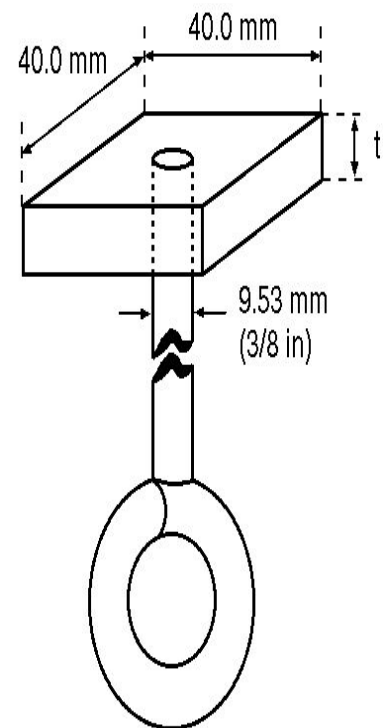

Figure 2. Loading Plate Detail
- The load will be applied downward, from below, by means of a 40mm by 40mm square plate (see Figure 2) resting on the loading plane of the bridge. The plate thickness (t) will be between 6mm and 12mm thick and will have a 9.53 mm (3/8 inch) diameter eyebolt attached from below at its center. Force will be applied to the loading plate by means of a bucket hung from the eyebolt with variable amounts of sand added in or with a mechanical tester until structural failure.